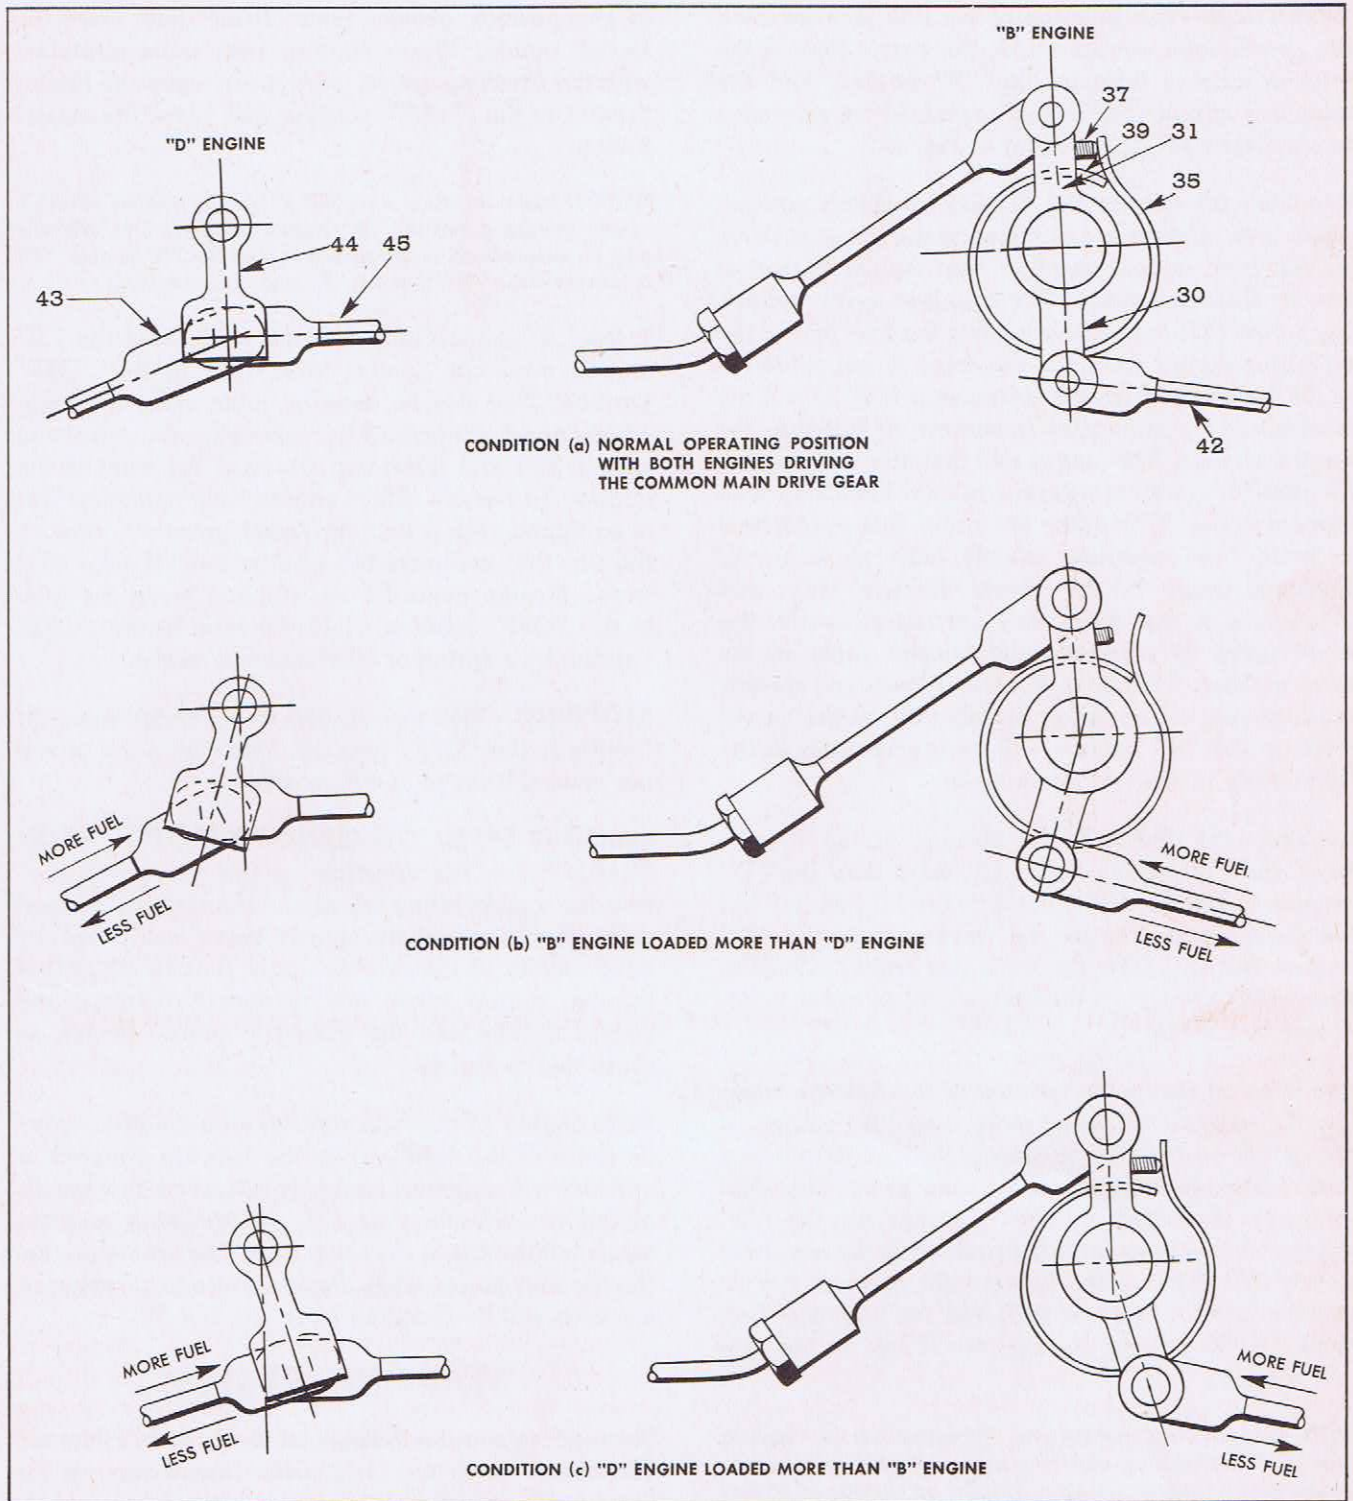

FIG. 41—POSITIONS OF THROTTLE LINKAGE BETWEEN TWIN ENGINES WITH EQUAL LOAD ON ENGINES, ALSO WHEN UNEQUALLY LOADED (VARIABLE SPEED GOVERNORS).
OPERATION—The function of the link (45) between the two injector control racks, the swivel joint at the injector control tube on the "B" engine, and the equalizer spring (35) is best explained by reference to conditions (a), (b), and (c) in Fig. 41.